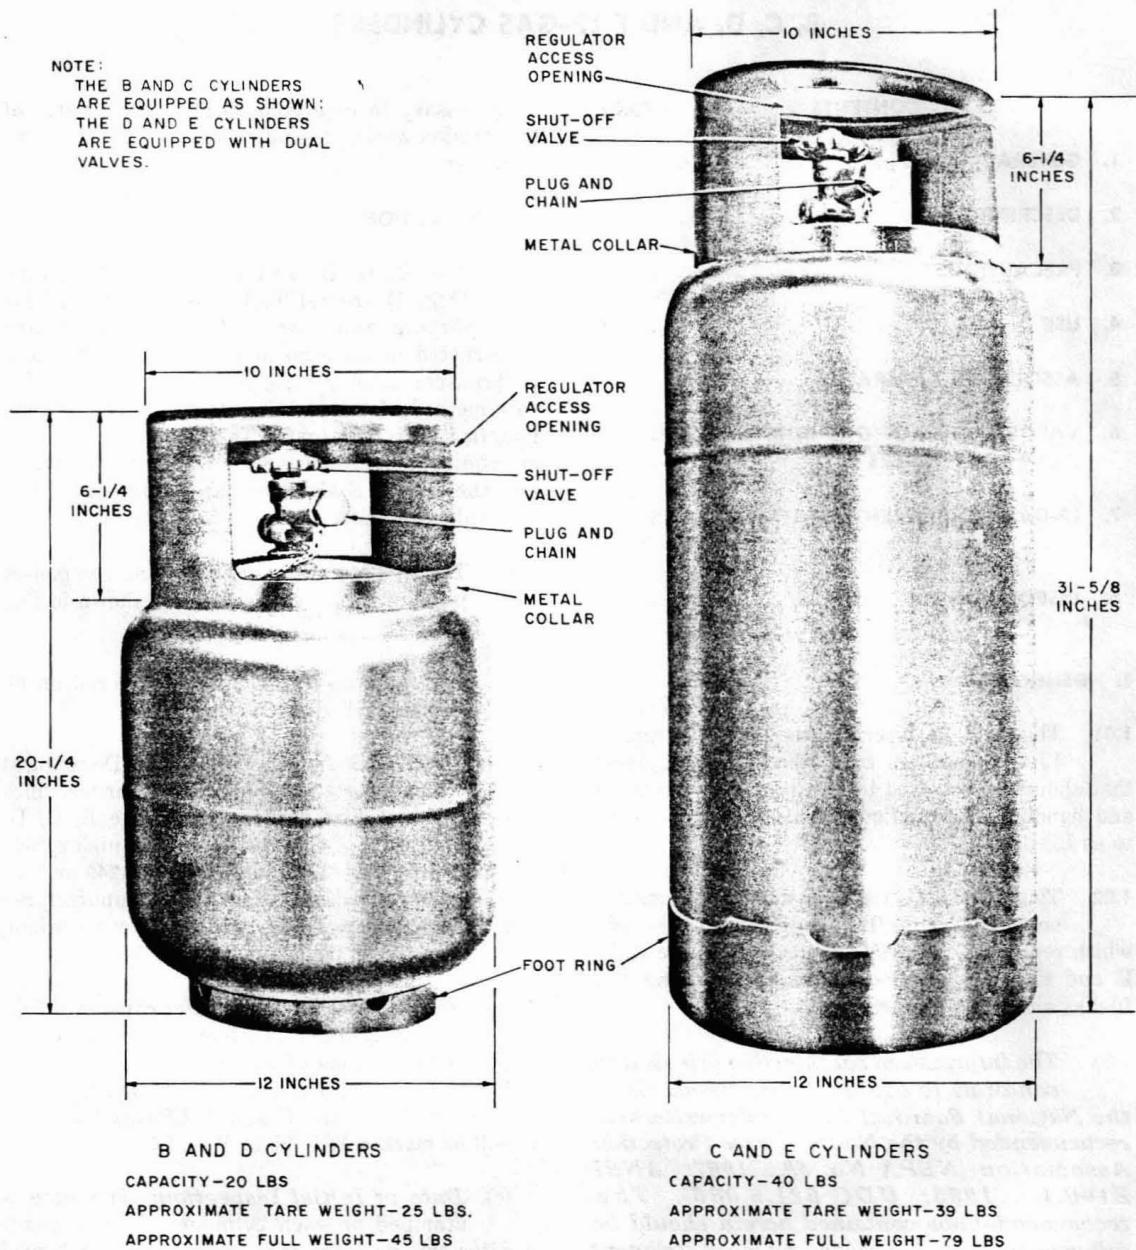

Fig. 1—LP-Gas Cylinders
2.01 The B, C, D, and E LP-Gas Cylinders (Fig. 1) are refillable steel containers for transporting and storing LP-Gas. They are constructed in accordance with the Department of Transportation (DOT) regulations to afford a safe method of transporting, storing, and handling liquefied petroleum gas. The B and C Cylinders are equipped with the standard vapor release valve, and the D and E Cylinders are equipped with a dual valve for releasing liquid or vapor fuel.
2.02 The weights, measurements, and component parts of these cylinders are as shown in Fig. 1.
2.09 A metal collar, 10 inches in diameter and 6-1/4 inches high, is provided to protect the shut-off valve. On newer models the regulator access opening in the collar has been enlarged and made rectangular as shown in Fig. 1. The regulator access opening on the older models is circular.
2.10 A foot ring (Fig. 1) is provided to support the cylinder in the vertical position. The foot rings of the C and E LP-Gas Cylinders have been enlarged and strengthened with a rolled edge base.